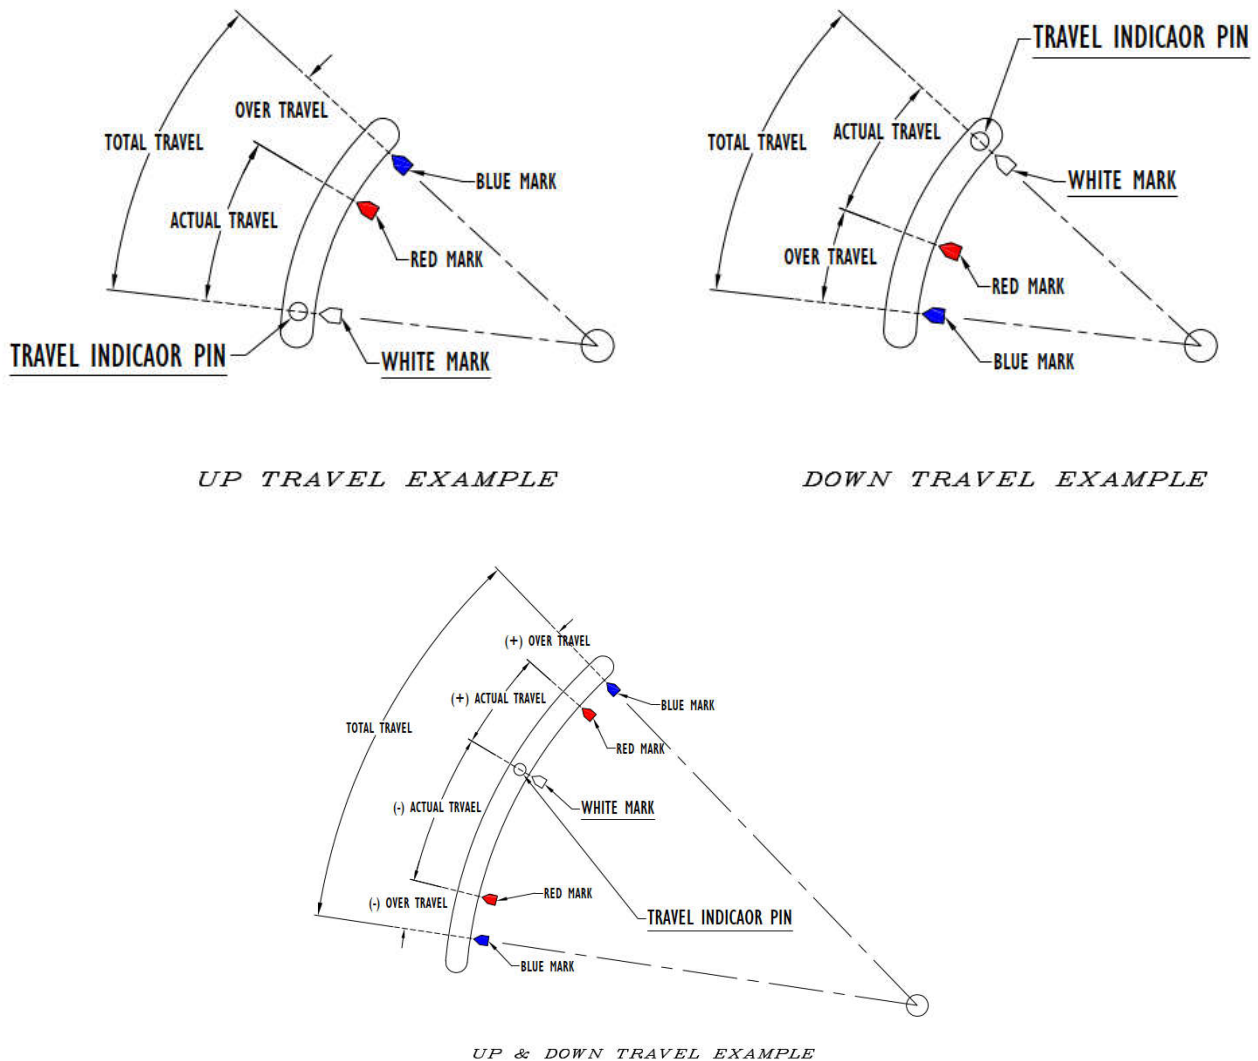

Figure 1: Hanger Type Constants Travel Markings
1) Hanger constant 100-A, 100-B, 100-C, 100-D, 100-E (Layout-A), 100-E (Layout-B), 100-G, 200-A, 200-B, 200-C, 200-D, 200-E. Figure 1 below show view of travel indicator markings found on below constant support types.
7. The hanger travel indicator should now be readjusted to the cold position (white mark) shown in figure 1, using the load coupling (turnbuckle) one last time.
8. When the operating conditions are reached, check the hanger to ensure the hanger travel indicator is at or near the hot (red mark) position shown in figure 1. If not, contact the piping designer for further analyses/review of the system.
7. The hanger travel indicator should now be readjusted to the cold position (white mark) shown in figure 1 (page 1), using the load coupling (turnbuckle) one last time.
8. When the operating conditions are reached, check the hanger to ensure the hanger travel indicator is at or near the hot (red mark) position shown in figure 1 (page 1). If not, contact the piping designer for further analyses/review of the system.
9. The hanger travel indicator should now be readjusted to the cold position (white mark) shown in figure 1, using the load coupling (turnbuckle) one last time.
10. When the operating conditions are reached, check the hanger to ensure the hanger travel indicator is at or near the hot (red mark) position shown in figure 1 (page 1). If not, contact the piping designer for further analyses/review of the system.